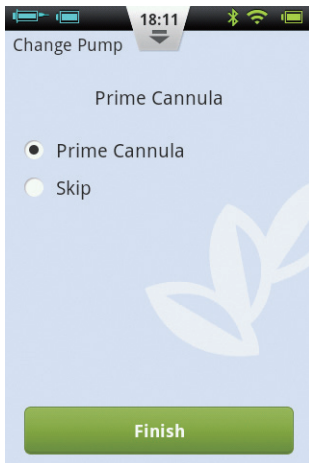

Figure 78
**6** Now choose whether or not to prime the cannula (Figure 78). Upon completion, the pump will begin to deliver.
**1** From the Home Screen, choose the Actions button and then the New Reservoir button to enter the New Reservoir Wizard. Remove the pump and reservoir from the infusion set as shown in Figure 78. Press Continue, the pump will rewind, and the PDA will display the next page of the wizard. Before proceeding to the next step,